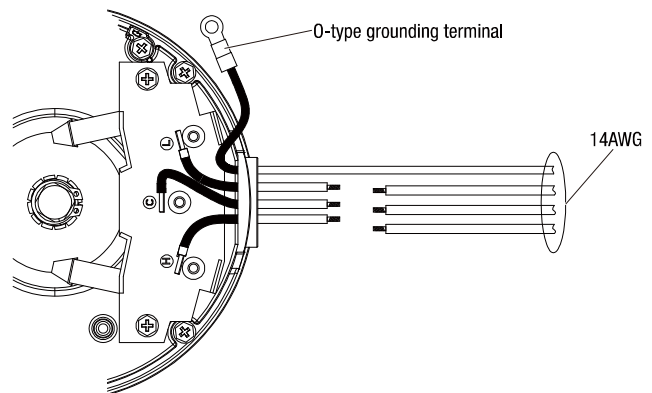

FIG.2
- ☐ Using multi-function crimping pliers to press o-type grounding terminal which connected 14AWG.(FIG.2)